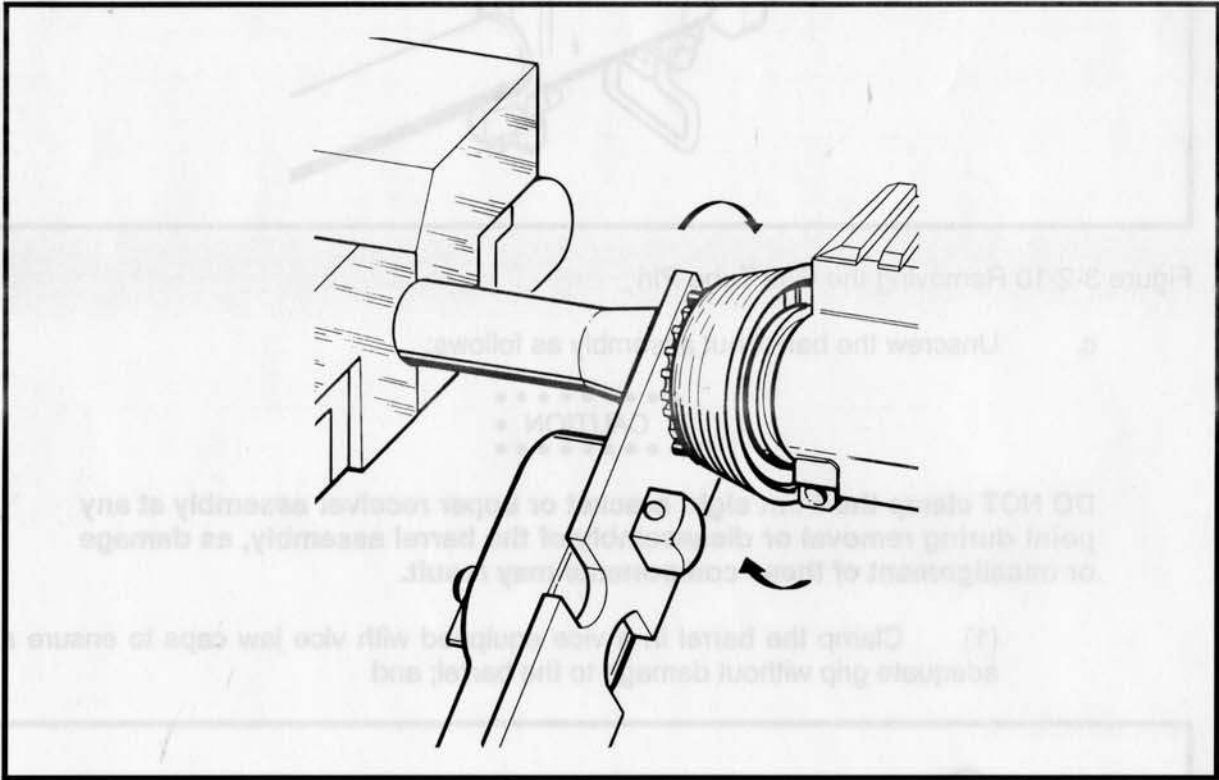

Figure 3-2-12 Unscrewing the Barrel Nut
- (2) Using the combination wrench and a 1/2 inch drive ratchet, unscrew the barrel nut assembly in a counter-clockwise direction, as viewed from the front. See Figure 3-2-12.